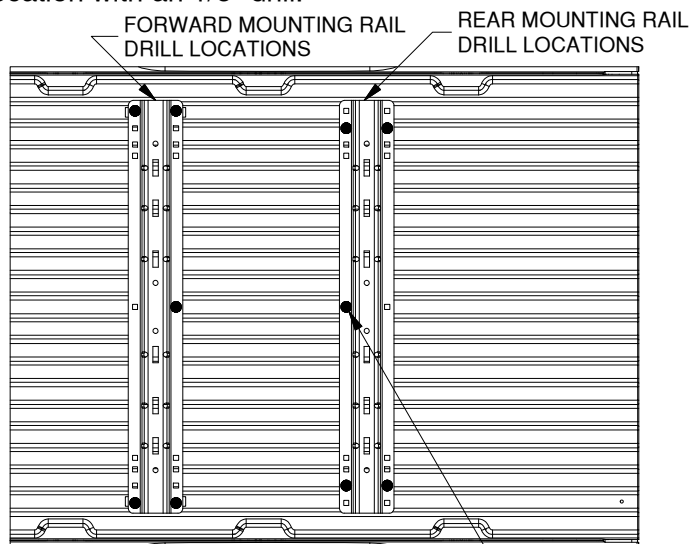

Figure A2: Detail view over bed, showing drill locations for the forward and rear bed rails.
- Mark hole locations:** While carefully ensuring the mounting rail does not move, use a center punch tool to mark the 5 drill locations on the rear rail. See figure A2 for hole marking locations for this installation (forward rails will install on a later step). Once all 5 rear rail locations are clearly marked, move the bed rail out of the way and drill each location with an 1/8" drill.
- 4. Drill forward mounting holes.** Using the same methods as used for the rear mounting rail, mark, drill, check, and enlarge the holes for the forward mounting rail. Refer to "DRILL REAR MOUNTING HOLES" section, steps 2 through 4, on a previous page. Notice that the hole locations are slightly different than the rear rail, see figure A2 (on the second page).